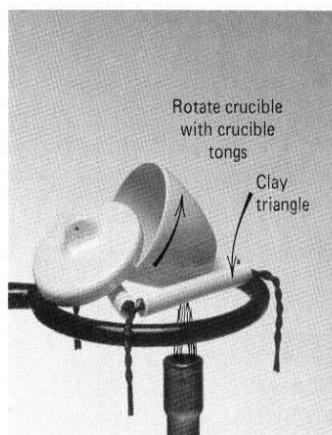

Figure T.15c Drying and/or firing a crucible and cover.
- Drying and/or Firing the Crucible.** Support the crucible and cover on a clay triangle (Figure T.15c) and heat in a hot flame until the bottom of the crucible glows a dull red. Rotate the crucible with crucible tongs to ensure complete “firing” of the crucible, i.e., the combustion and volatilization of any impurities in the crucible. Allow the crucible and cover to cool to room temperature while on the clay triangle or after several minutes in a desiccator (Technique 15B). If the crucible still contains detectable impurities, add 1–2 mL of 6 M HNO_3 (**caution: avoid skin contact, flush immediately with water**) and evaporate *slowly* to dryness in the fume hood.